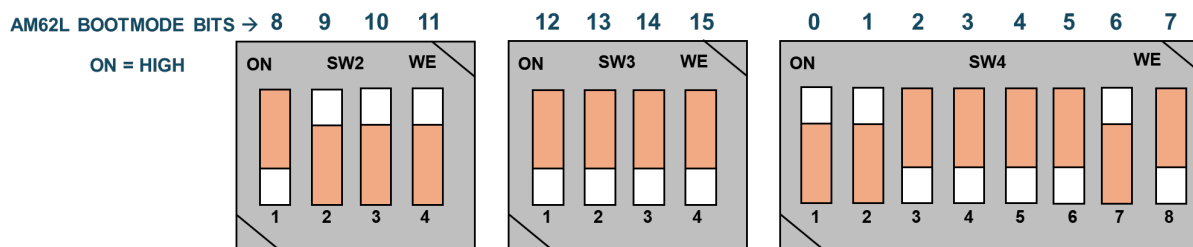

Figure 2-10. Example Full Pincount Bootmode (SD Card Boot)
1. Place the EVM boot switch selectors (SW4, SW3 and SW2) into selected bootmode. Example Full-Pincount bootmode for SD card is shown in Figure 2-10.